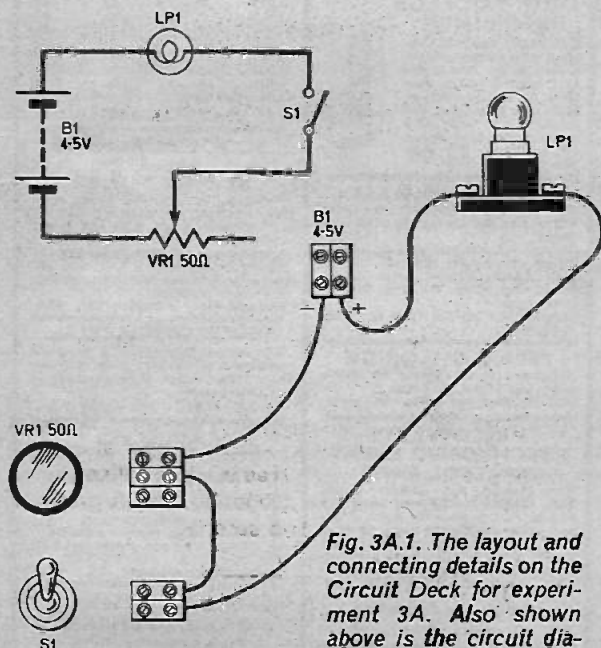

Fig. 3A.1. The layout and connecting details on the Circuit Deck for experiment 3A. Also shown above is the circuit diagram.
1. Connect up as shown (Fig. 3A.1.) using the 50 ohm potentiometer terminals, switch, 4.5 volt battery and lamp.